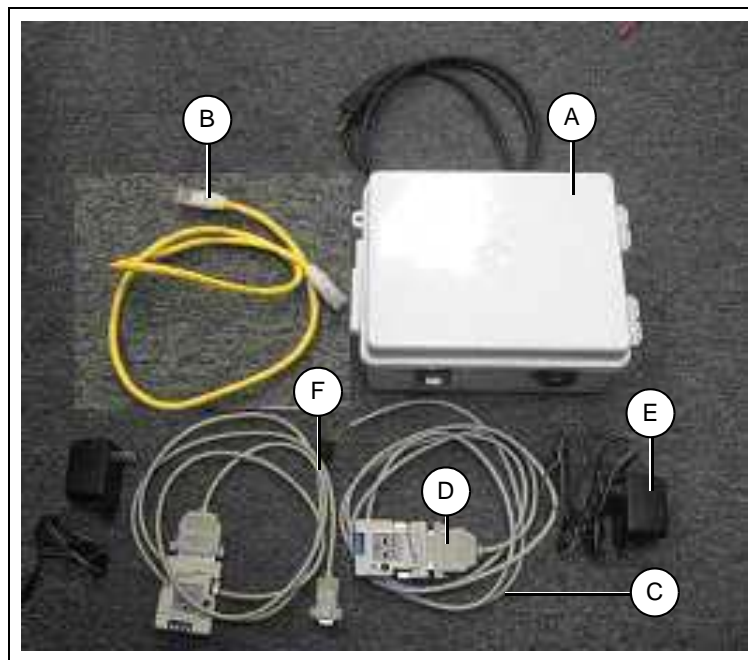
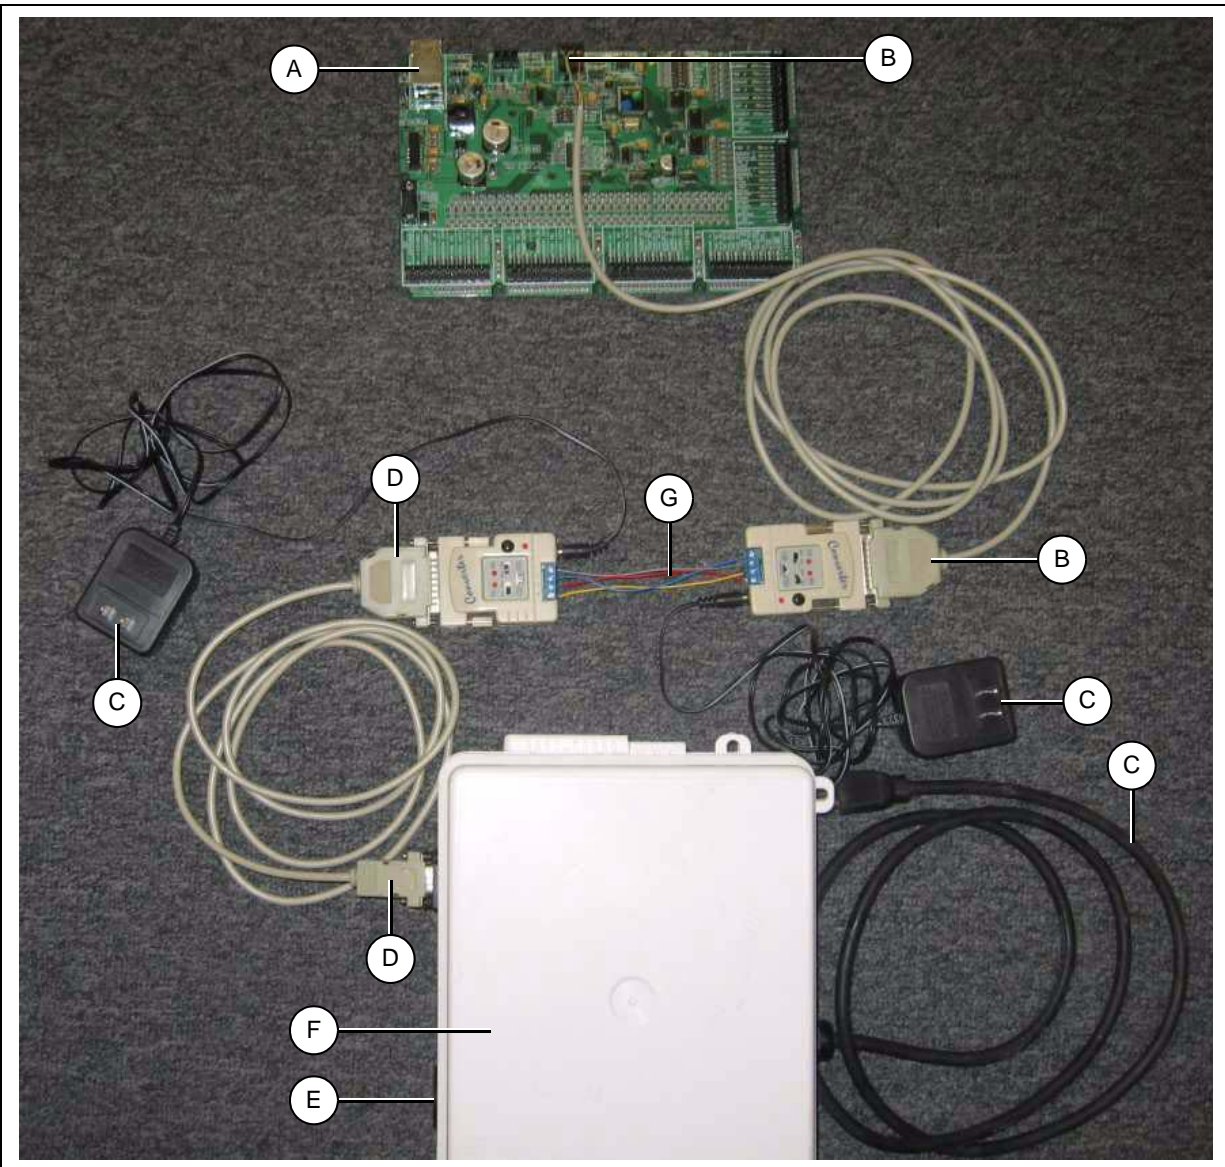

Figure 4A WatchDog System Components for Direct Connected Type (Part # VIS-WATCH-DC)
Figure 5A *Wiring for Direct Connection*
1. Direct Connect (Part # VIS-WATCH-DC) - This option allows the user to connect their dryer directly to their PC using two (2) short haul MODEMs and four (4) wires (Ethernet Cable). The contents of this option are pictured in Figure 4A.
The direct connection style setup (GSI Part # VIS-WATCH-DC) allows the user to connect his PC to the WatchDog System using two (2) short haul MODEMs. One MODEM will reside at the dryer, while another is located at the PC. Figure 4A on Page 11 shows the components included in this setup. The components are listed as follows:
2. Two (2) Short Haul MODEMs.
6. Ten (10) cable ties for routing wires.
The following list of steps should be followed to connect the WatchDog equipment to the dryer using a direct connection. Refer to *Figure 5A on Page 15* while performing the following steps.
2. Connect a short haul MODEM at the dryer. The cable (Modified Serial, *Figure 4A on Page 11*, Ref # C) supplied with the WatchDog shown in *Figure 4A on Page 11* should be plugged into the AUX port on the Display I/O Board (printed circuit board behind 10.4" color display) and the other end to a short haul MODEM. The short haul MODEMS power supply should be plugged into a 120 VAC receptacle (not provided) and the barrel connector into the short haul MODEM.
3. Connect the WatchDog to the Customer's PC via Ethernet cable (*See Figure 4A on Page 11*, Ref # B). The cable plugs into the RJ-45 connector on the side of the WatchDog enclosure (*See Figure 5A on Page 15*) and connects to an Ethernet connector on the customer's PC.
4. Connect the WatchDog Enclosure to the other short haul MODEM via the 9 pin to 25 pin serial cable (Ref # F in *Figure 4A on Page 11*). *Figure 5A on Page 15* shows this connection made.
H	Use modified serial cable (Figure 4A on Page 11 , Ref # C) to connect this short haul MODEM to Display I/O port on Vision Dryer. (See Figure 5A on Page 15.)
I	Use serial cable (Figure 4A on Page 11 , Ref # F) to connect this short haul MODEM to the WatchDog Enclosure's serial port. (See Figure 5A on Page 15.)